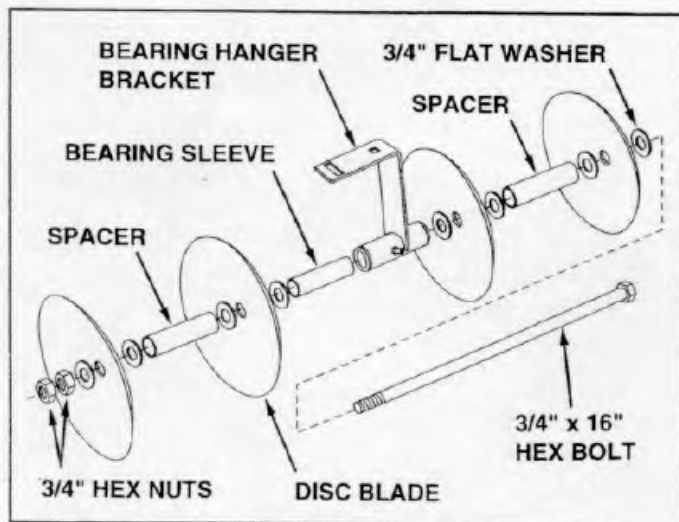

FIGURE 1
1. Assemble four discs to each bearing hanger bracket using a bearing sleeve (unplated), a 3/4" x 16" hex bolt, eight 3/4" flat washers, two spacers and two 3/4" hex nuts. Be sure the discs face the same direction relative to the hanger bracket as shown in the figure 1. **Tighten** the first hex nut and then **tighten** the second hex nut against the first.